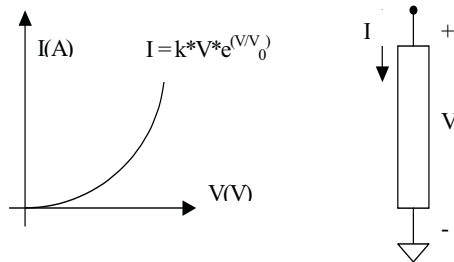

Figure 0.12 Fictive device whose equivalent resistance is to be calculated.
- First, consider the fictive device whose I-V characteristic is given in Figure 0.12. Constant k has the dimension of S (or $1/\Omega$). V_0 is a voltage characteristic to the device. Calculate the equivalent resistance for an output voltage transition from 0 to $2V_0$ by integrating the resistance as a function of the voltage.